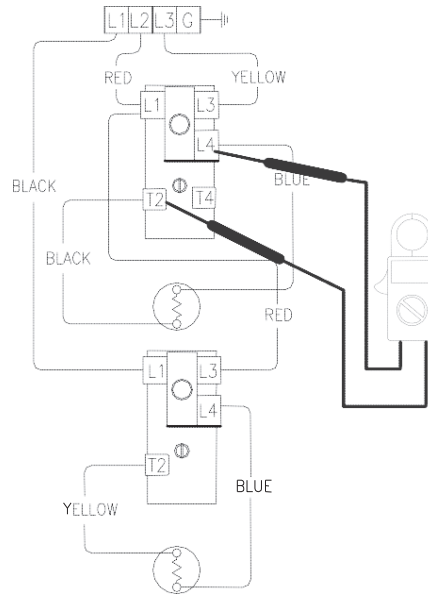

Figure 51
5. Check across terminals L4 and T2 of upper thermostat (see Figure 51).